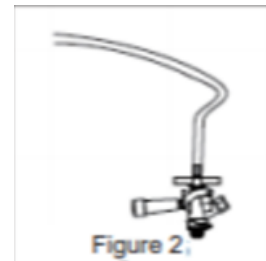

Figure 2
- 1) Connect the transparent beer line to the keg coupler and tighten it, the keg coupler's handle should be facing up, indicating that the keg is untapped (Figure 2).